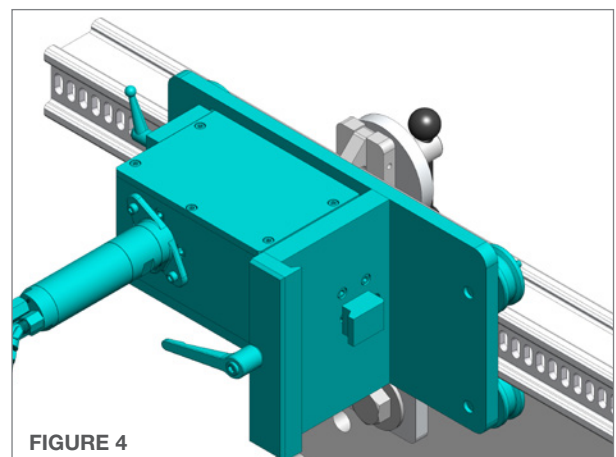

FIGURE 4
4. Loosen the **Quick Adjust Handle** and pull the gearbox away from the carriage plate. This will allow the **Horizontal Drive Carriage** to slide onto the rail without pneumatic power to rotate the drive. Center the carriage on the top rail and push the gearbox back toward the carriage plate. This will engage the gear into the rail slots. Verify the gear is engaging the slots correctly and retighten the adjustable handle. **(Figure 4)**